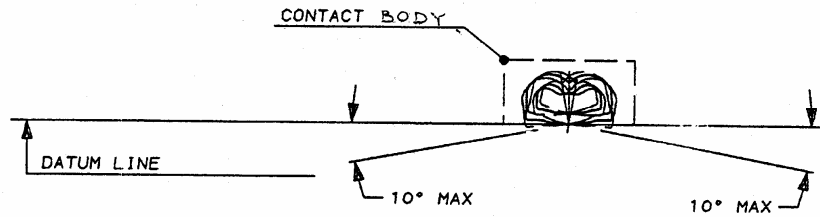

Fig. 4
- B. Twist or roll: Twist or roll of the crimped contact shall not exceed the limits specified in Fig. 4.